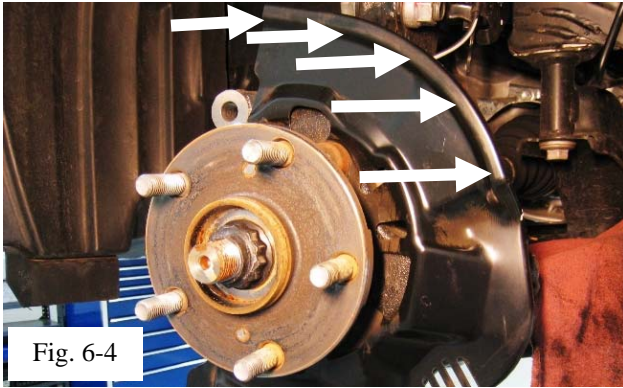

Fig. 6-4
- (c) Hand bend the top portion of the dust shield in toward the center of the vehicle approximately $\frac{1}{2}$ " to $\frac{3}{4}$ " to provide clearance to the back side of the new rotor (Fig. 6-4).